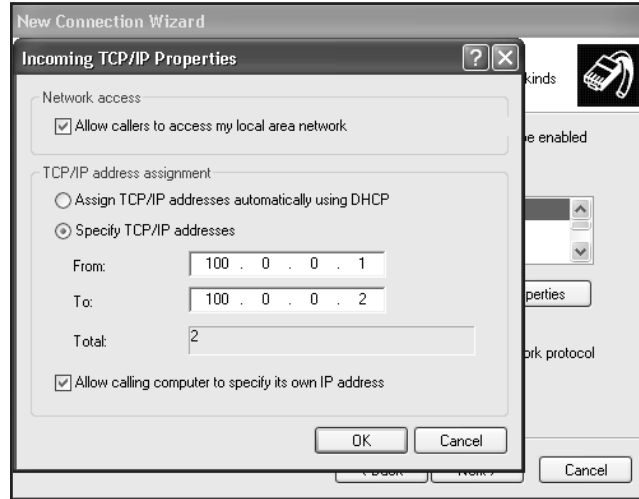

Figure 217 Adding the Network Protocol
10. Configure a range of IP addresses allowed to access the system. A minimum range must be assigned as shown in Figure 217. Click **OK**.